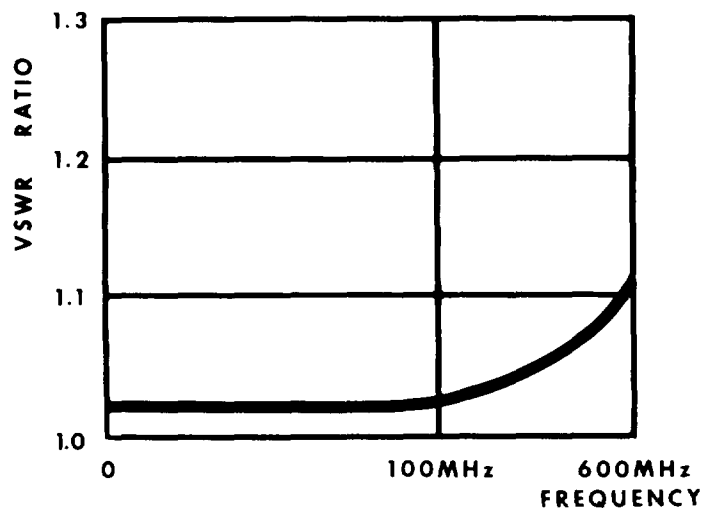

Figure 4-5. VSWR curve for 50-ohm termination adapter.
c. Type BNC 50-ohm termination adapter: This is the most widely used termination with a VSWR of less than 1.2:1 to 600MHz. It is not recommended for accurate measurements above this frequency. (see figure 4-5) The termination has a 5 watt power rating.